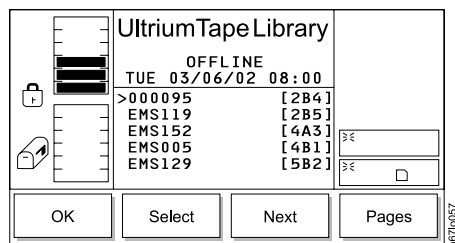

Figure 184. Export Select Dialog
5. Press the button below the **Page Up** or **Page Down** softkey to locate the screen that contains the cartridge that you want, then press the button below the **Select** softkey. The selection cursor displays beside the first item on the screen (see Figure 184).